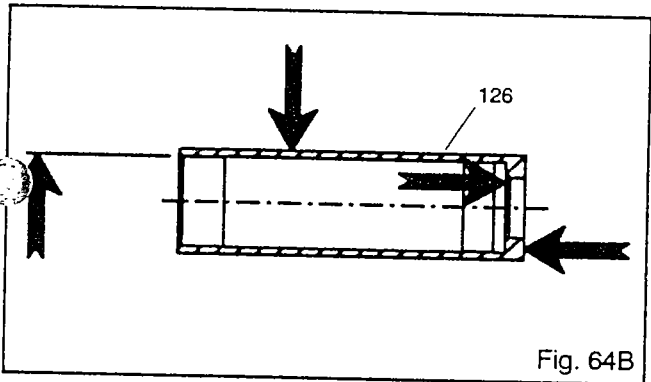

Fig. 64B
3. Check shaft and sleeve (126) surface for grooves, pitting. Replace if any are found (Fig. 64B).